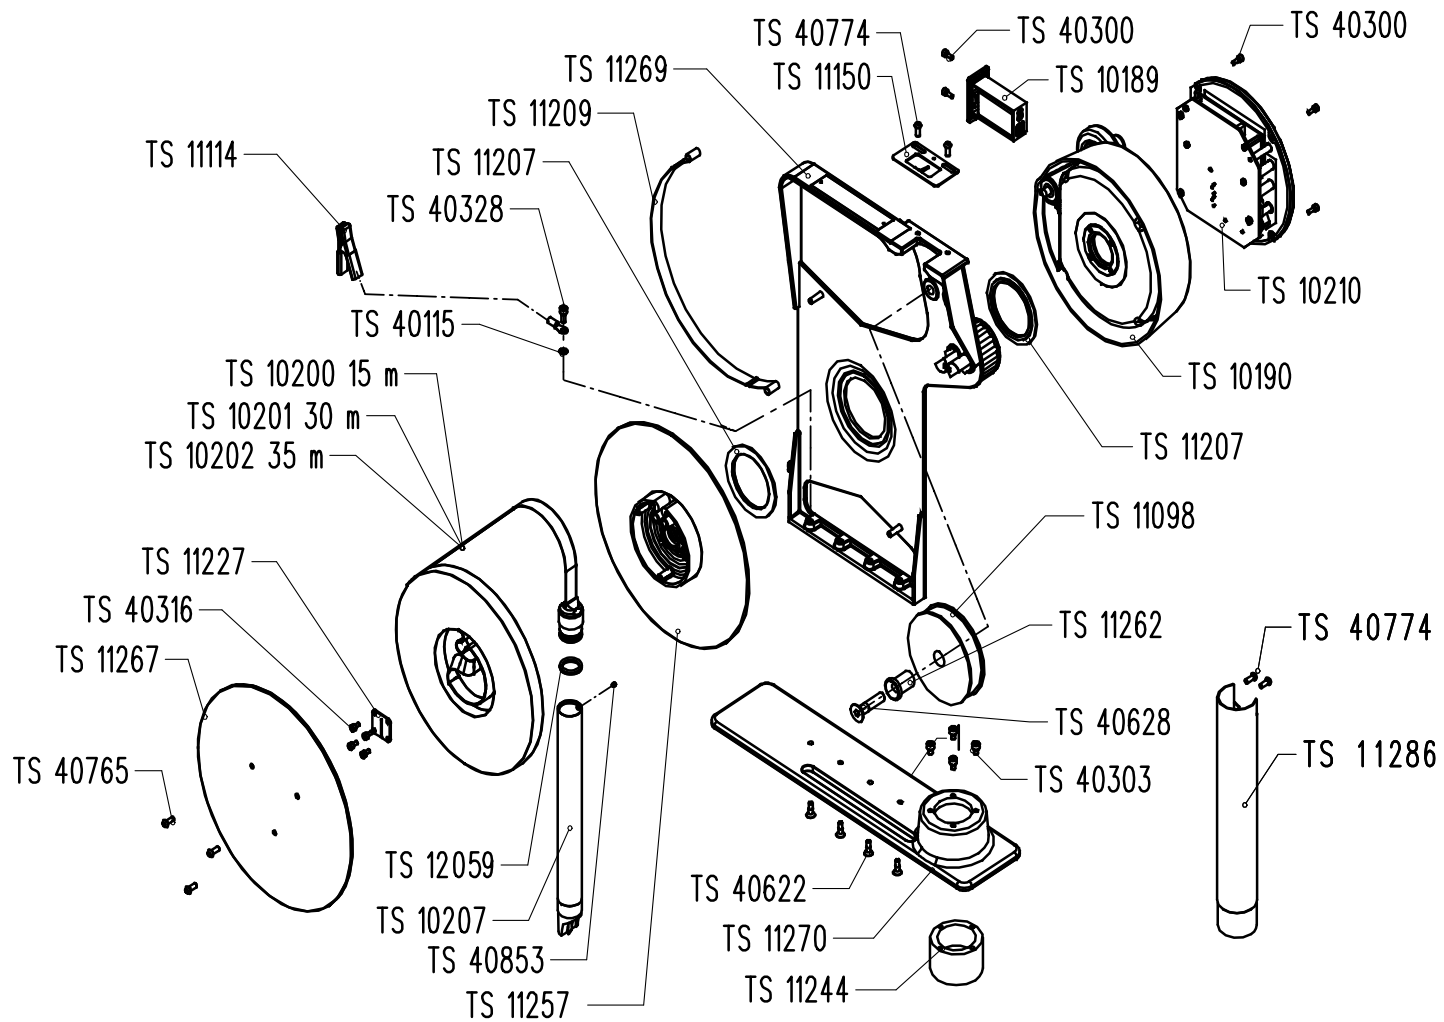

Figure 11-2 : general assembly HERMeTic UTImeter Otex chem version, list of the main spare parts
- Figure 11-2 : general assembly HERMetric UTImeter Otex chem version, list of the main spare parts